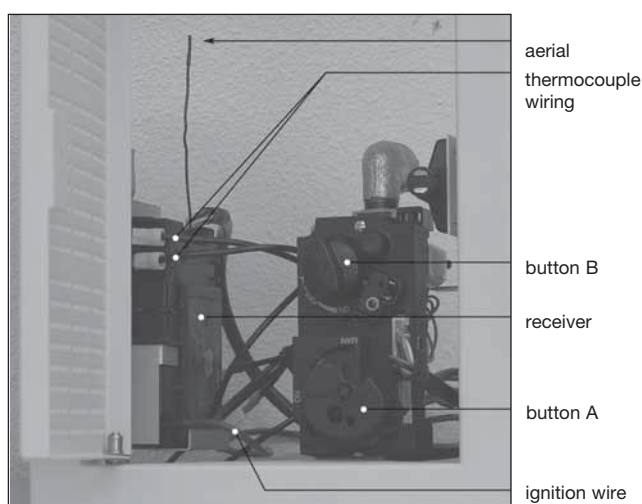

fig. 12
- Place the receiver in the control box, as indicated on fig. 12.
Caution: Do not place the antenna too close to the ignition cable and/or metal parts (for the correct position, see fig. 12);
The receiver is located in the control box (see fig. 12).
- Place the receiver as indicated in fig. 12
- Do not place the antenna too close to the ignition cable and/or metal parts: make sure the antenna is pointing upwards (for the correct position, see fig. 12);